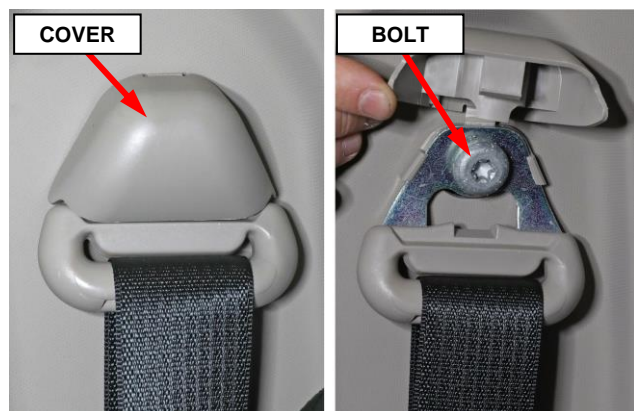

Figure 26 – Seat Belt Turning Loop
- On the C-pillar, lift the seat belt turning loop cover then remove the turning loop bolt (Figure 26).